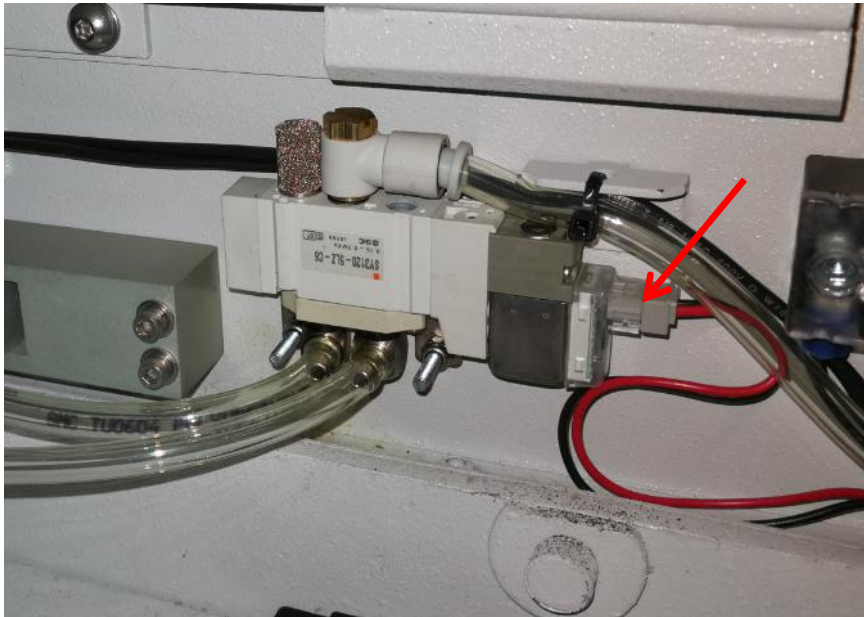

Figure 5
9. Connect Input cable form Outer Barrier Solenoid Valve as Figure 5.